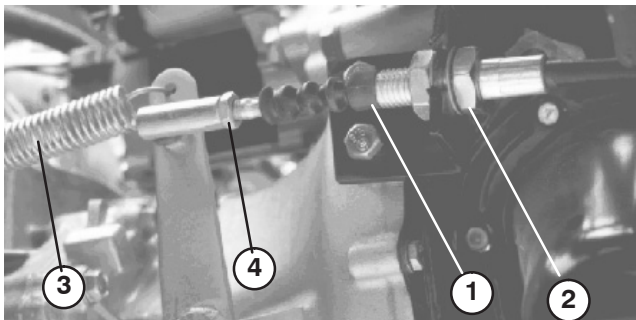

Figure 43
1. Loosen the jam nuts securing the clutch cable to the bracket on the bell housing (Fig. 43).